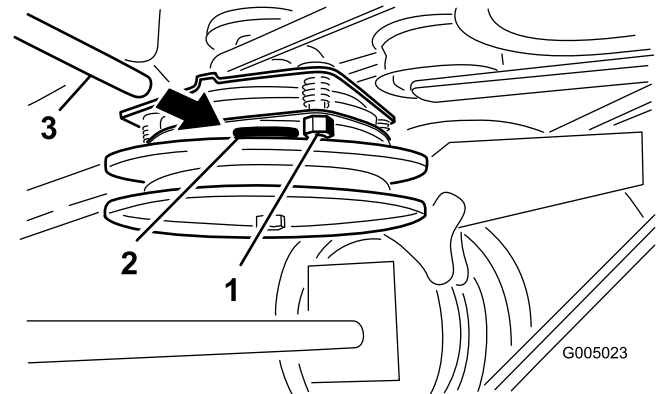

Figure 40
2. Tighten the locknuts until there is slight binding on the feeler gauge but it can be moved easily within the air gap (Figure 40).